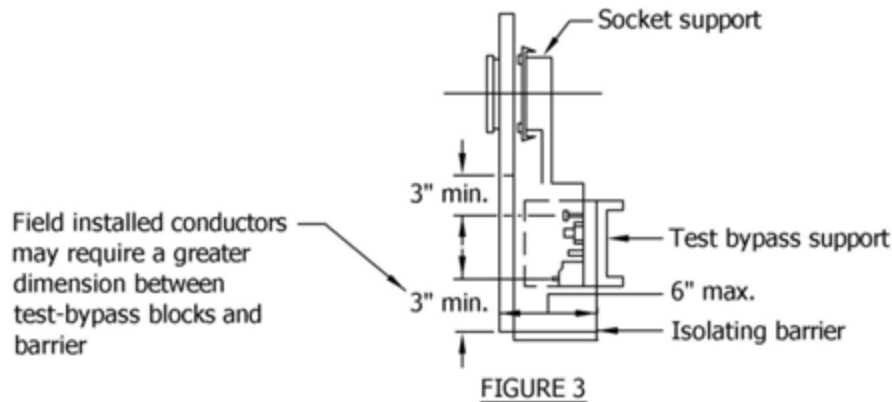

FIGURE 3
- ① The width and depth are determined by type and ampacity of service.
- ② Hinged meter panels shall be capable of being opened 90 degrees with meter and test facilities in place. The hinges shall be readily interchangeable right or left on the job sight. For other details, see pages SG 517.8 – 517.9. All meter panels must be hinged from the test switch side.
- ③ The enclosure door shall be hinged opposite from the meter panel door when necessary to allow 90 degree opening of the meter panel door with Utility equipment in place. When enclosure door(s) is locked, a double hasp is required. The enclosure door(s) shall be designed to secure in the open position at 90 degrees or more. A full height hinged door with a three-point locking mechanism and provision for a Utility furnished padlock is required.
- ④ The meter heights specified on page SG 504.1 apply in full switchboard height meter enclosures.
- ⑤ For meter socket and test switch panel layout, see pages SG 517.8 – 517.9. For instrument transformer compartment information, see pages SG 517.12 – 517.20.
- ⑥ If the panel is hinged at the side wall of the NEMA 3R recess, the edge of the test switch slots shall be 1" plus the depth of the recess from the hinged side.
- ⑦ Where an adjacent obstruction extends 11" or more perpendicular from the face of the meter socket, a 10" minimum dimension to centerline of meter is required. This also applies to multi-meter installations. See pages SG 509.1 – 509.4 for meter cabinet requirements.
- ⑧ All panels and covers shall be sealable.
- ⑨ The 11" clearance from meter panel to inside of door is required for all types of meters.
- ⑩ When outdoor raintight service equipment is installed on a "housekeeping pad", that pad must be level and extend a minimum of 3' measured from the face of the meter panel, or a minimum of 6' when 5" conduit is required. See Figures 3 and 4 on page SG 517.6. If the enclosure doors are wider than 3', the housekeeping pad shall extend 1" beyond the outer edge of the equipment doors when opened at 90 degrees.
- ⑪ See pages SG 504.4 – 504.5 for working space and clearance requirements, 0 – 600 volts.
- ⑫ See Section 700 for terminating enclosure UGPS requirements.